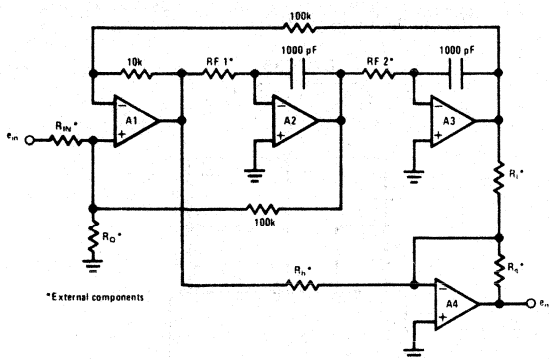

FIGURE 6. Output Notch Using All Four Amplifiers
e) Output notch (Figure 6) transfer function equations are: